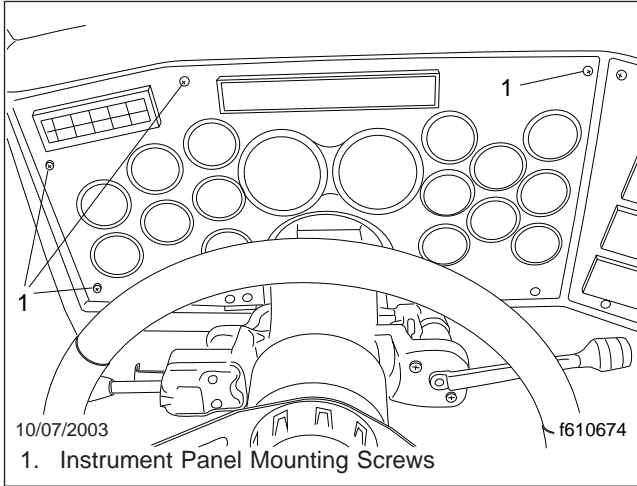

Fig. 1, Instrument Panel
3. Remove the four screws that secure the instrument panel, then pull the top of the panel forward to access instrument panel wiring. See Fig. 1.
3. Remove the four screws that secure the instrument panel, then pull the top of the panel forward to access instrument panel wiring. See **Fig. 1**.